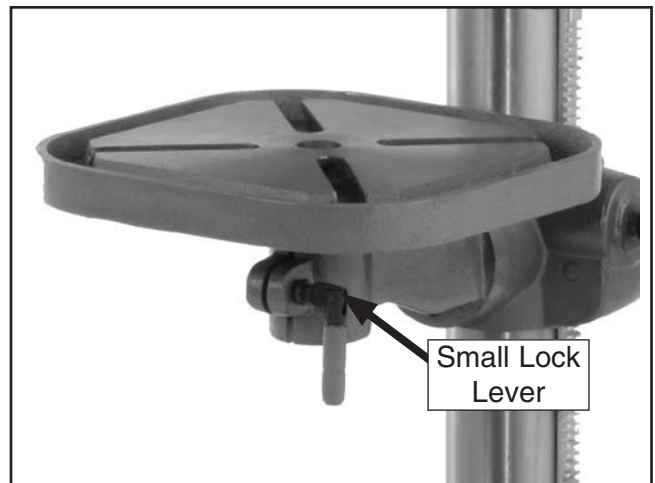

Figure 18. Table installed.
2. Tighten the small locking lever (**Figure 18**) to secure the table in the table support assembly.